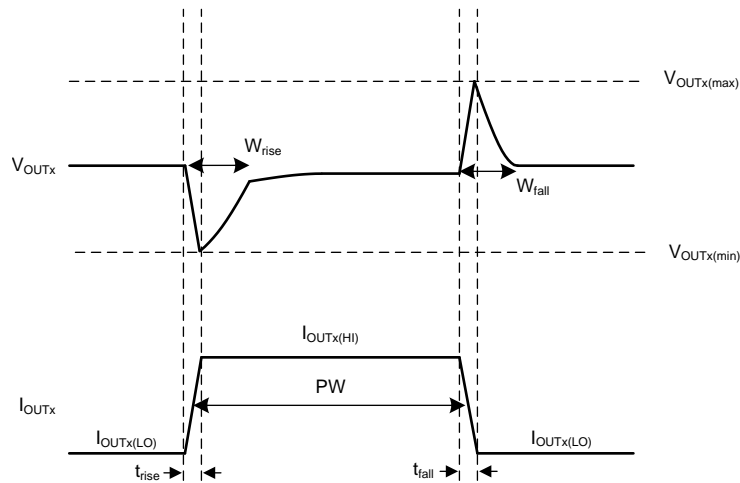

Figure 51. Simplified Load Transient Waveform
The transient response peaks ( $V_{OUTx(max)}$  and  $V_{OUTx(min)}$ ) are improved by using more output capacitance; however, doing so slows down the recovery time ( $W_{rise}$  and  $W_{fall}$ ). Figure 51 shows these parameters during a load transient with a given pulse duration (PW) and current levels ( $I_{OUTx(LO)}$  and  $I_{OUTx(HI)}$ ).